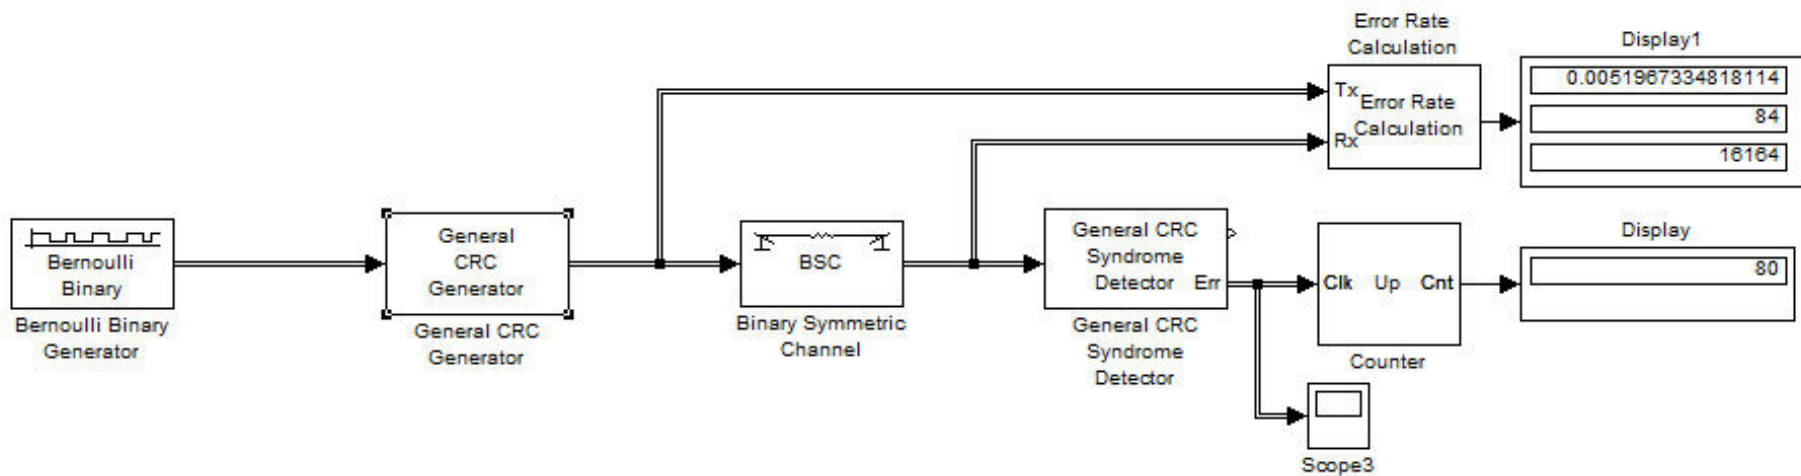

Figure 2. Simulation of random errors CRC check evaluation
5. Prepare the data transmission schema according to Figure 2 in Simulink. *Bernoulli Binary Generator* generates random binary sequence. *Binary Symmetric Channel* generates bit errors with predefined bit error probability (use e.g. 0.1‰, 1‰ a 1%). Find the probability of random event, that the error in codeword will not be detected (there will be received erroneous frame with correct CRC check).